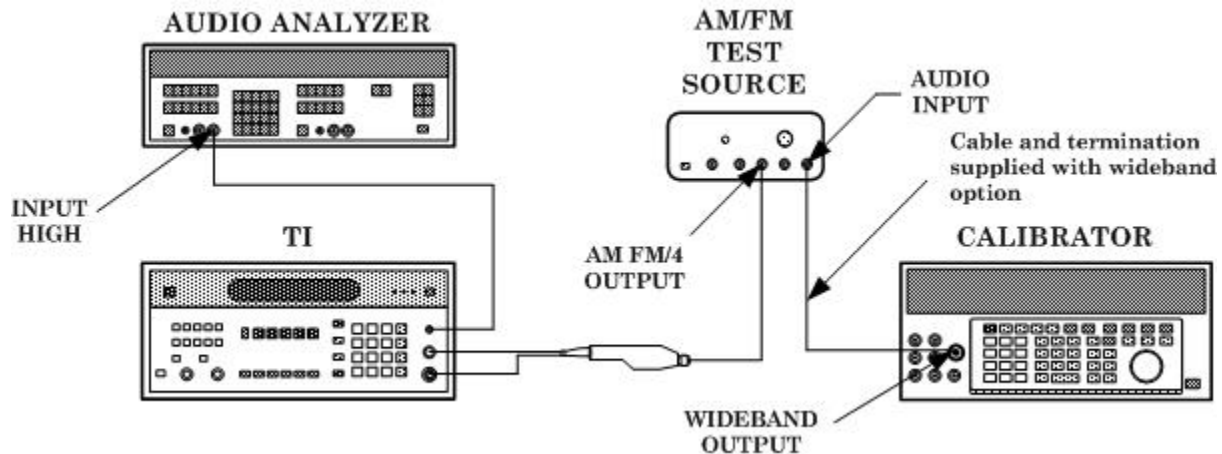

Figure 6. FM equipment setup.
- (8) Allow TI to take at least two readings.
- (9) Record TI indication value as 40 kHz ref for future reference.
- (10) If TI indication is not between 99 and 101 percent, perform **b** below.
- (11) Press TI keys as listed in (a) and (b) below:
- (12) Allow TI to take at least two readings.
- (13) Record TI indication value as 400 kHz ref for future reference.
- (14) If TI indication is not between 99 and 101 percent, perform **b** below.
- (15) Set AM/FM test source **TEST MODE** switch to **FM**.
- (16) Connect equipment as shown in figure 6 below.
- (17) Set calibrator for a wideband output frequency of 10 kHz at an amplitude of 0.14354V.
- (18) Press TI keys as listed in (a) and (b) below:
- (19) Adjust AM/FM test source **CARRIER FREQUENCY TUNE** for a TI indication of approximately 100 MHz.
- (20) Press TI keys as listed in (a) through (f) below: